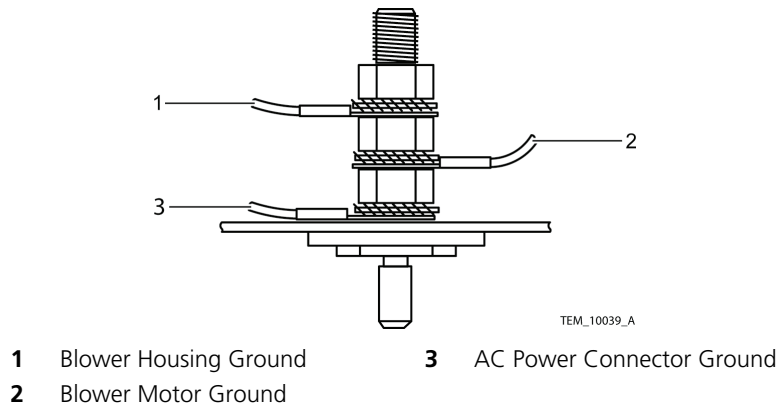

Figure 84. Equipotential Ground Stud Wiring
49. Connect the ground wires to the equipotential ground stud (Figure 84, item 2) in the order shown in Figure 84. Tighten the nuts to 36 to 44 in/lbs (91 to 112 cm/kg).